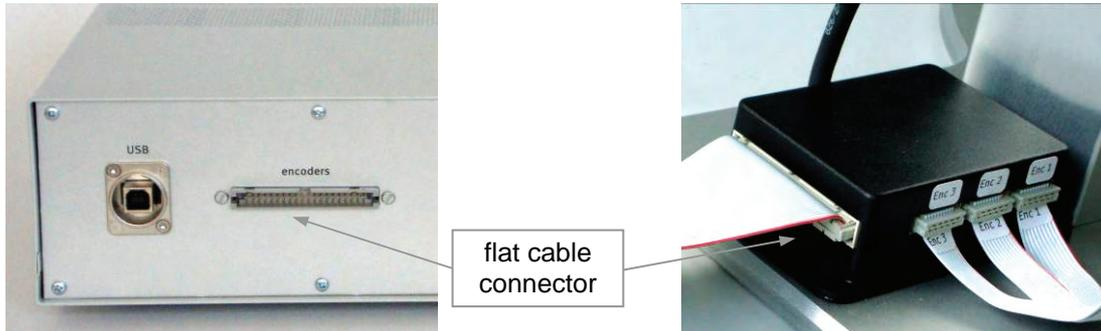

figure 3 – DHD to DHC interface cable
- connect the black connector box mounted of the delta base to the DHC using the flat cable connector provided in the package (figure 3)